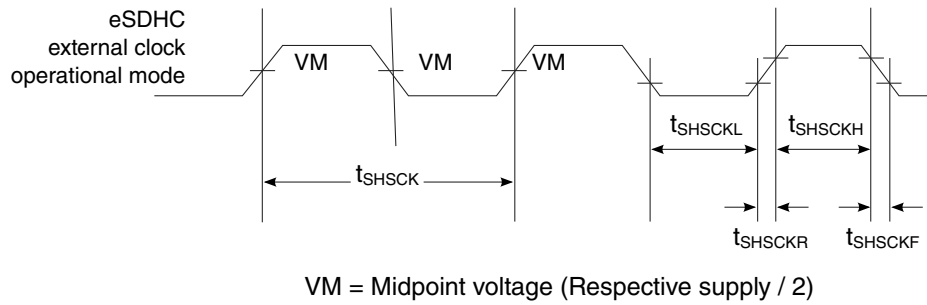

Figure 14. eSDHC clock input timing diagram
1. The symbols used for timing specifications herein follow the pattern of t_{(first two letters of functional block)(signal)(state) (reference)(state)} for inputs and t_{(first two letters of functional block)(reference)(state)(signal)(state)} for outputs. For example, t_{SHKHGX} symbolizes eSDHC highspeed mode device timing (SH) clock reference (K) going to the high (H) state, with respect to the output (O) reaching the invalid state (X) or output hold time. Note that in general, the clock reference symbol is based on five letters representing the clock of a particular functional. For rise and fall times, the latter convention is used with the appropriate letter: R (R for rise) or F (F for fall).
5. See Figure 14. on page 86.